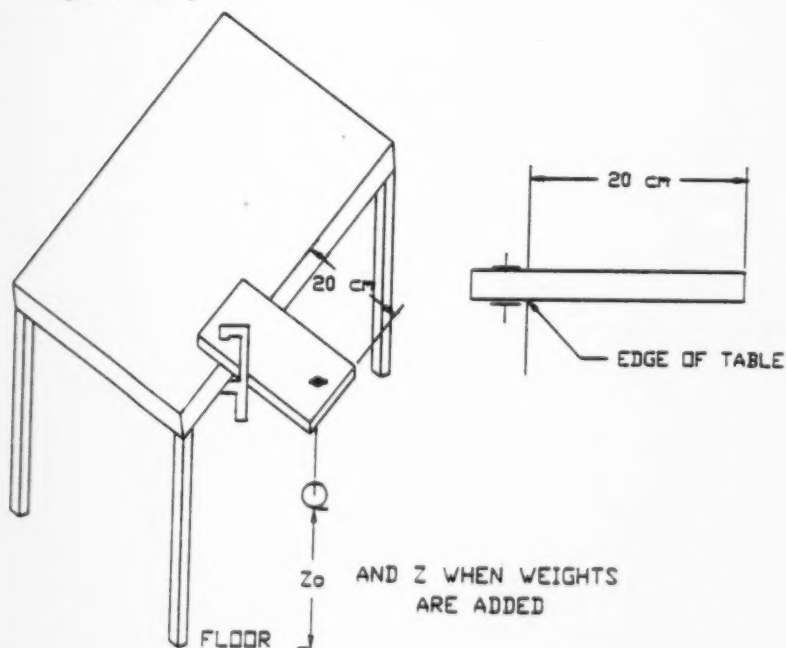

Figure 6
1. Secure a strip of material to the edge of a table using the C-clamp and wood strip, allowing 20 cm of the strip to hang over the edge of the table. See Figure 6 below. **[CAUTION!!!]** Be careful not to put your feet under the test sample or weight hanger at any time. If the C-clamp slips, there could be some serious injuries.]